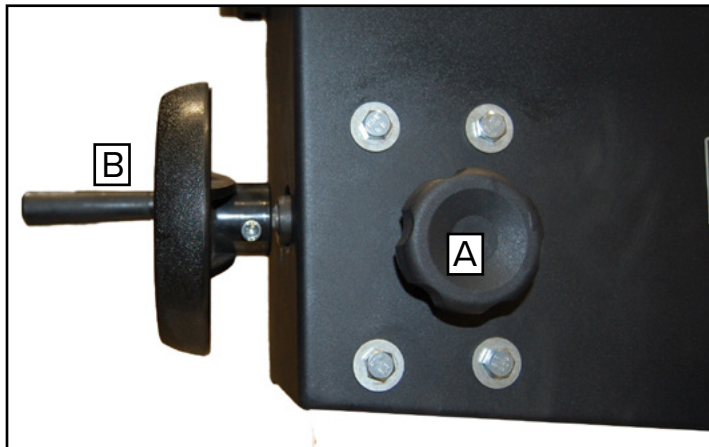

Figure 16: Upper Blade Guide Lock Lever.
- Loosen the lock handle Fig.16 (A) and move the guide support assembly so that the side roller guides are approximately 1/16" behind the gullets of the blade. Re-tighten the lock handle.